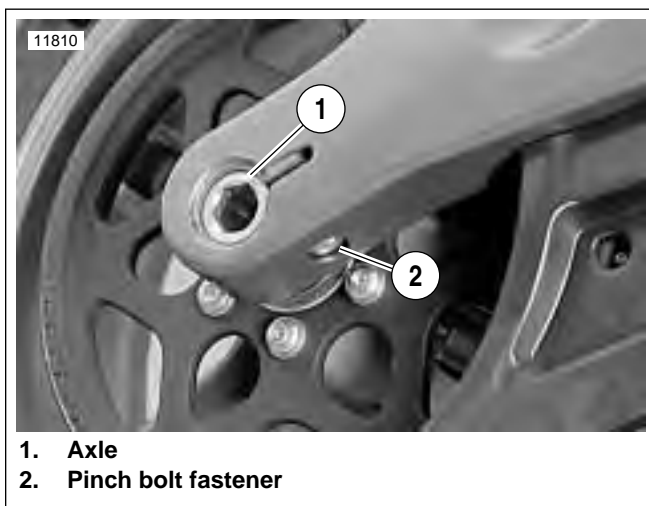

Figure 2-82. Rear Wheel Mounting, Right Side (XB12Ss)
2. See Figure 2-82. Loosen rear axle pinch fastener (2).
3. Loosen rear axle (1) approximately 15 rotations to allow partial tension to be removed from rear drive system.